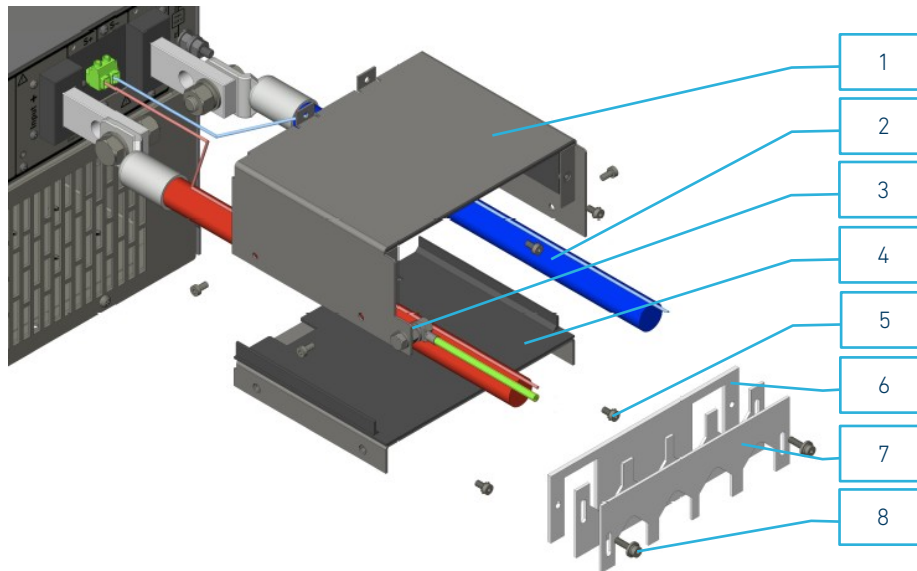

Figure 2.18: installing the SAB-HES-5 safety cover
The following **numbers** refer to Figure 2.18.
3. If there are screws at the markings in Figure 2.18, remove them from the rear panel and dispose of them.
4. Connect the load cables to the copper bars as shown in Figure 2.11 and Figure 2.18 using the screws and washers supplied.